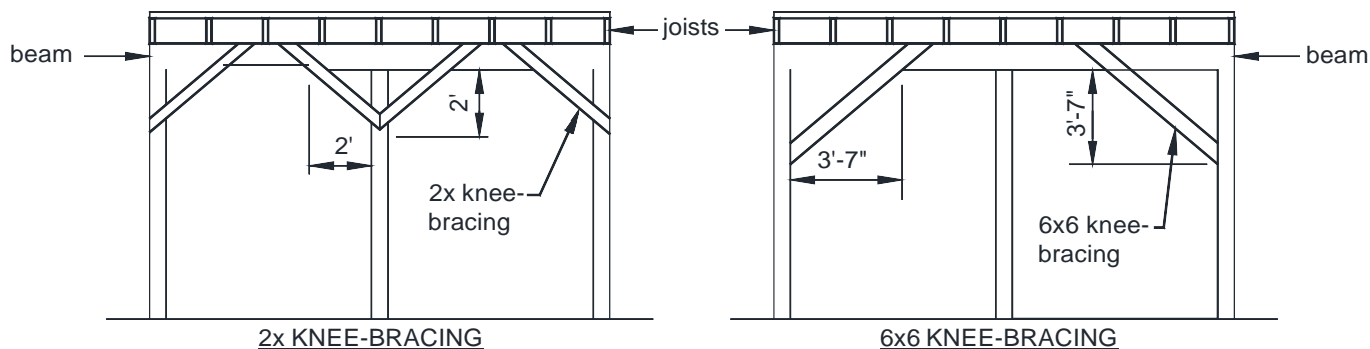

FIGURE 28: METHOD 2 - KNEE-BRACING AT BEAM-POST LOCATIONS
- Decks shall have 2x knee-bracing installed at each post-beam location or 6x6 knee-bracing at end posts and both sides of every other interior post in accordance with FIGURE 28.